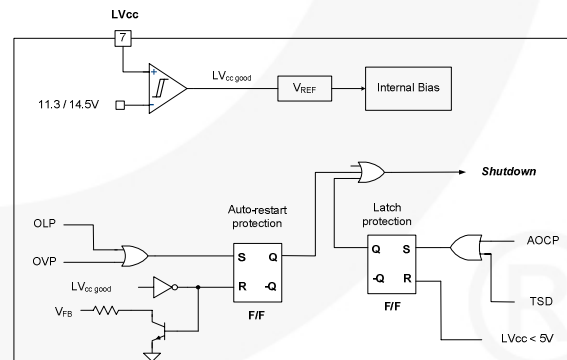

Figure 20. Protection blocks
**3. Protection Circuits:** The FSFA2100 has Overload Protection (OLP), Abnormal Over-Current Protection (AOCP), Over-Voltage Protection (OVP), and Thermal Shutdown (TSD) self-protective functions. The OLP and OVP are auto-restart mode protections, while the AOCP and TSD are latch-mode protections, as shown in Figure 20.